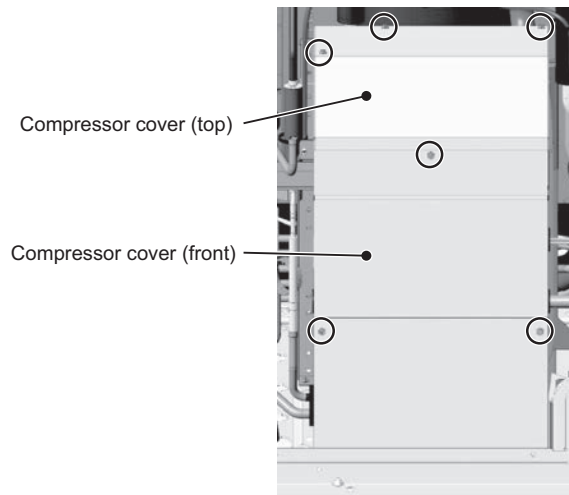

Figure 2
- (1) Remove the front heat exchanger. Refer to "8-12-11 Maintenance Procedures for the Heat Exchanger" for details.
- (2) Remove the top and the front compressor covers. (6 screws, Figure 2)